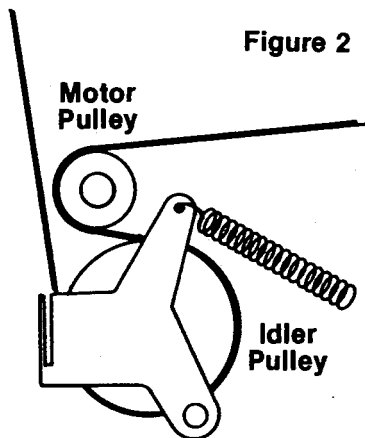

Figure 2
- Route the loop over and between the motor pulley and the idler pulley (Figure 2).